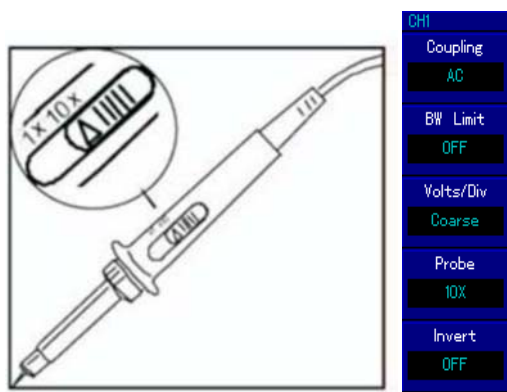

Figure 1-3 Setting of attenuation coefficient on DSO
① Connect DSO probe to CH1 input terminal and set the attenuation rate switch on the probe as 10× (Figure 1-3)
② It is required to set probe attenuation coefficient on DSO.